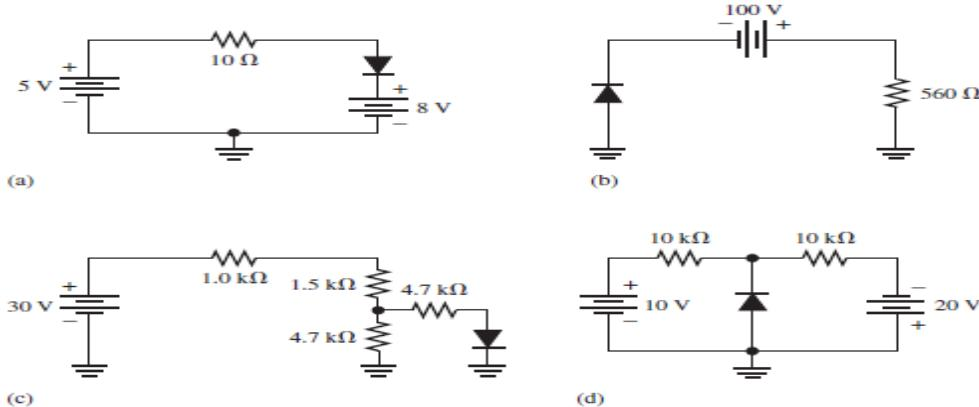

Figure 2–85
- Determine the voltage across each diode in Figure 2–85, using the complete diode model with $r'_d = 10 \Omega$ and $r'_R = 100 M\Omega$.